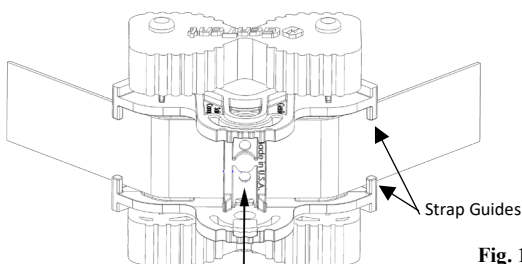

Fig. 1.11
The Kevlar® Ratchet Strap is what secures the four Angle Braces to the case of your generator. It is threaded through and behind the Angle Brace center (Fig 1.11) circling around the generator to feed into Ratchet Buckle for tightening.
- h.** Unwind your Kevlar® Strap, take the loose end and feed it through each Angle Brace, ensuring to stay under the strap guides (Fig 1.11) and behind the center section (Fig 1.11). While feeding the strap through each of the Angle Braces **avoid twisting the strap** and be sure the grommets are facing toward the case.